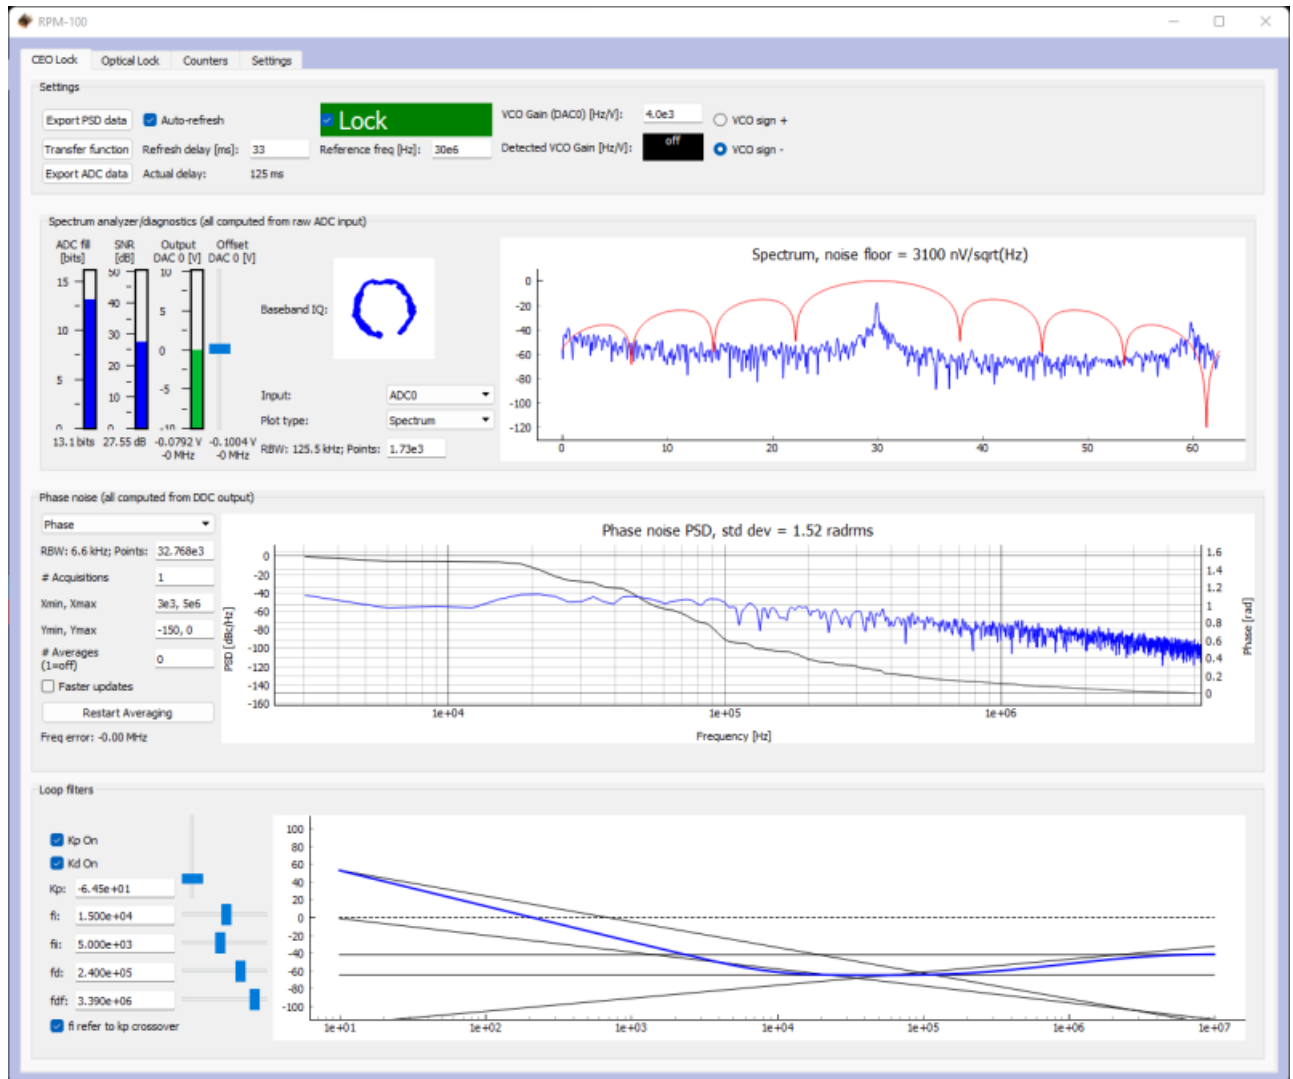

Fig. 10: Locking  $f(\text{CEO})$
- Press the “Lock” button (figure 10, top middle). If the system doesn’t lock, change the VCO sign to the opposite polarity (top right) and try again. A warning may occur if the selected VCO sign is incorrect. If the system still won’t lock, try lowering the  $K_p$  value (bottom left).